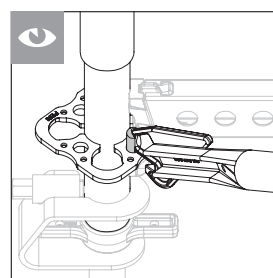

Fig. A4.11b
- Insert dowel pin (**24.3**) into the brace adapter (**12.3**). (Fig. A4.11b)
Are all dowel pins and spring bolts properly engaged? (Fig. A4.11b, A4.11e)